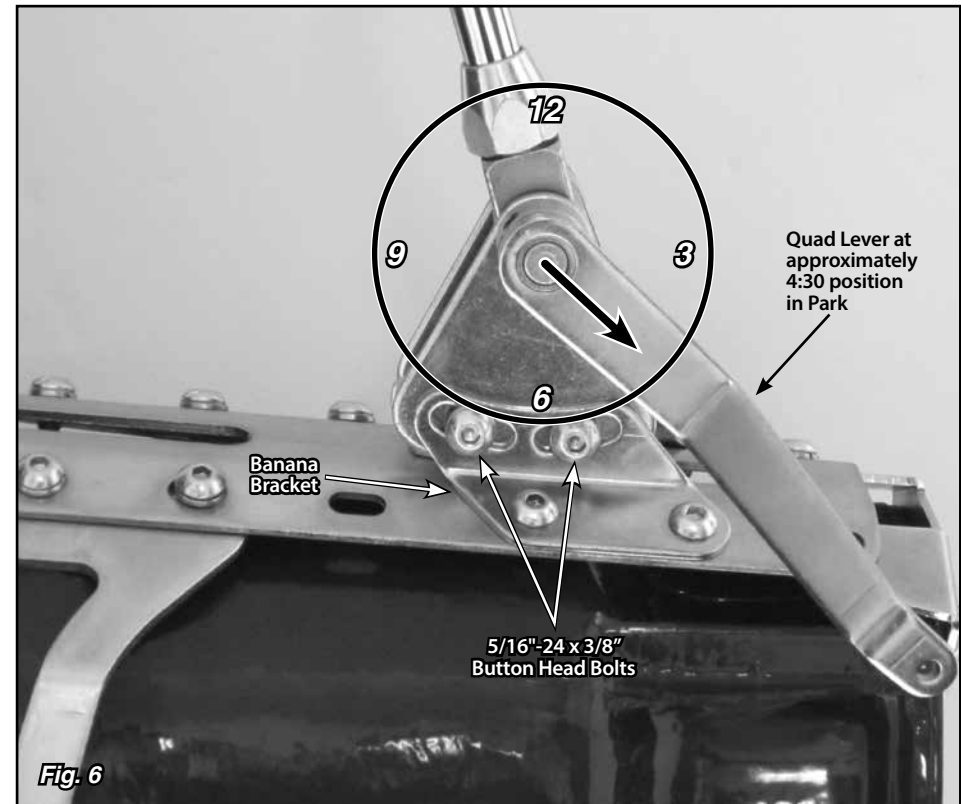

Fig. 6
Step 10: Make sure the two 5/16"-24 x 3/8" button head bolts that attach the left side banana bracket to the shifter assembly (in the curved, slotted holes) are tight. Before tightening the shifter assembly down to the main plate, move the shifter lever through all the gear positions. Make sure that the shifter lever and knob do not come in contact with the dash or the seat. The shifter assembly can be tilted forward or backward if needed by loosening the 5/16"-24 x 3/8" button head bolts in the curved, slotted holes in the left side banana bracket. **Fig. 6**
Step 11: Put the shifter lever into the Park position and check the position of the quad lever. It will need to be pointing to about the 4:30 position. If it is not, loosen the set screw in the top of the quad lever with a 1/8" Allen wrench and slide the quad lever off of the shaft. Reposition it on the shaft at approximately the 4:30 position, and retighten the set screw. **Fig. 6**
Double check to make sure that the bolts connecting the left side banana bracket to the shifter assembly are tight. **Fig. 6**